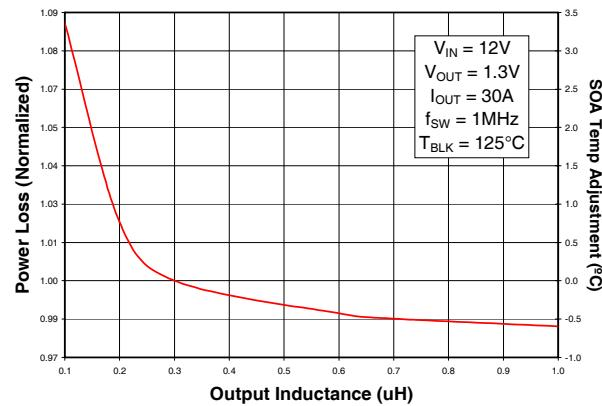

Fig. 6: Normalized Power Loss vs. Inductance
- (Fig. 6) Normalized power loss for inductor value ≈ 1.02
- (Fig. 6) Normalized SOA Temperature for inductor value $\approx 0.75^\circ\text{C}$